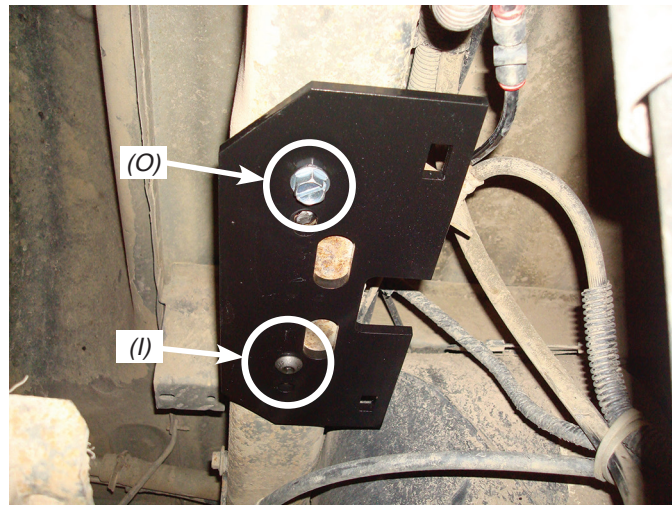

fig. 6
3. Insert and tighten a self-tapping bolt (O) into the hole drilled. Torque the bolt to 15ftlbs (fig. 6).
Figure 6 shows the upper bracket installed to the frame using the supplied M10 bolt (I) that was removed and a self-tapping bolt. **Use these only if the existing jounce bumper bolts break!**